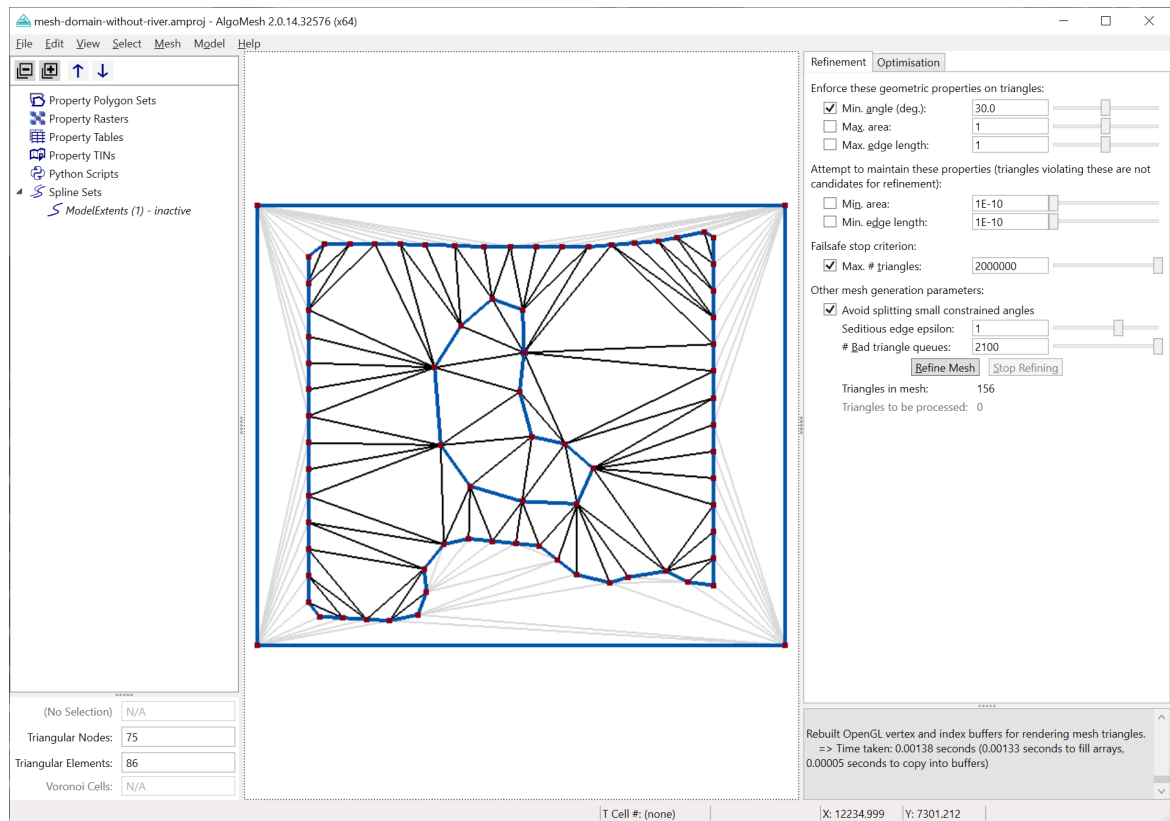

Figure 67: The newly created polygonal region near the centre of the mesh.
- Continue holding **Ctrl+Shift** to **create points in a loop**, as in Figure 67, ending up nearby, but not on top of, the first point you created. If needed, you can use the mouse wheel to zoom in and out and get a better picture of what you're doing. Holding down the left mouse button and dragging (without Ctrl or Shift held down) pans the view.